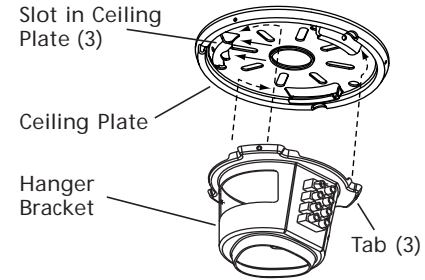

Figure 4a - Aligning the Hanger Bracket with the Ceiling Plate
2. Carefully lift the fan assembly and position the hanger bracket with the ceiling plate as shown in Figure 4a.